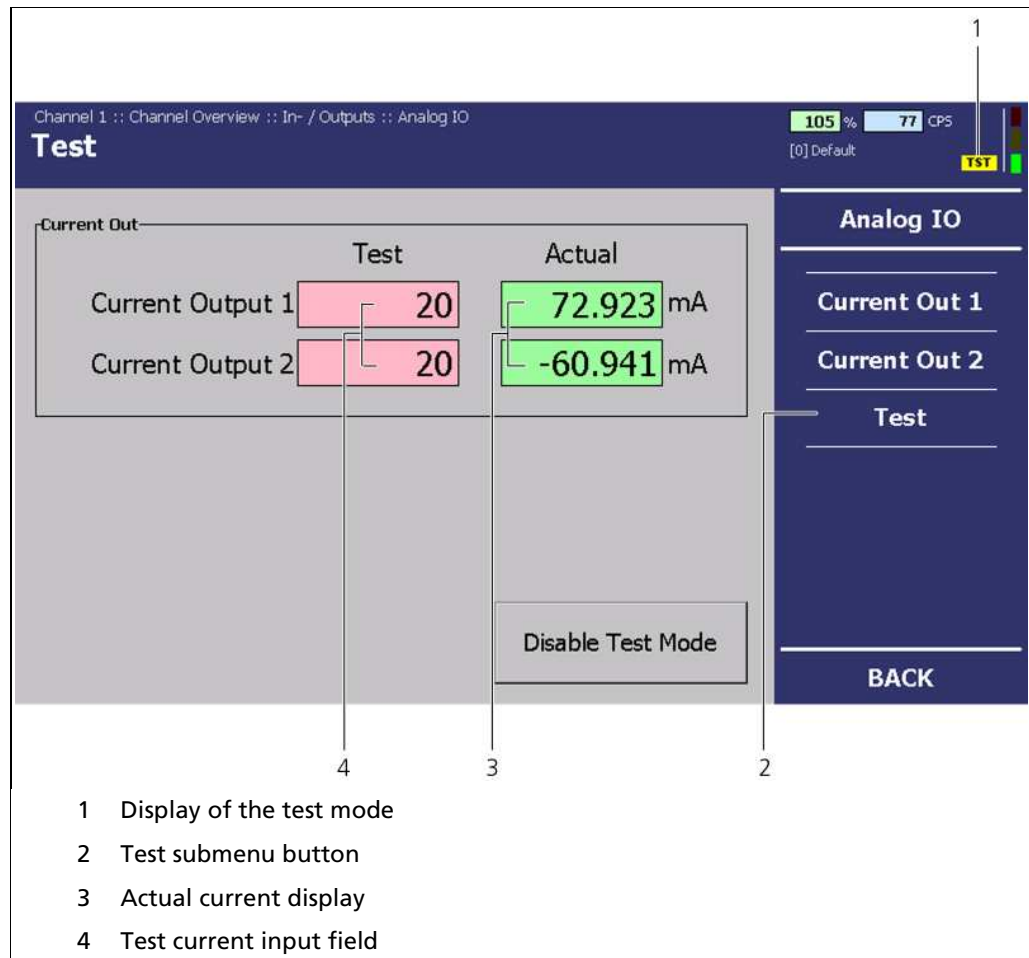

Fig. 66 "Channel Overview" menu, In/Outputs - Analogue IO (Test)
In the "Test" submenu, you can enter your own current value for the sake of the test (Fig. 66, Pos. 4). As long as this test current is in effect, the background of the input field will be shown in red. In the "Actual" display field, the actual current is displayed. This value cannot be changed.
1. In the "Channel Overview" menu click on In/Outputs | Analogue IO | Test (Fig. 66, Pos. 2).
2. Click in the input field (Fig. 66, Pos. 4).
⇒ The test mode is started (Fig. 66, Pos. 1).